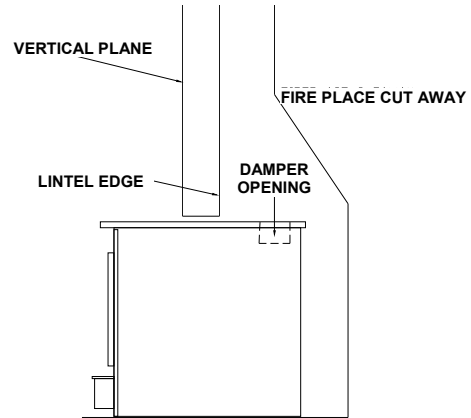

FIGURE 2 POSITIONING
When positioning heater, the following conditions **MUST** be met! (See Figure 2).
1. The front of damper opening must be positioned **BEHIND** rear edge of lintel to ensure proper draft. (See Figure 2).